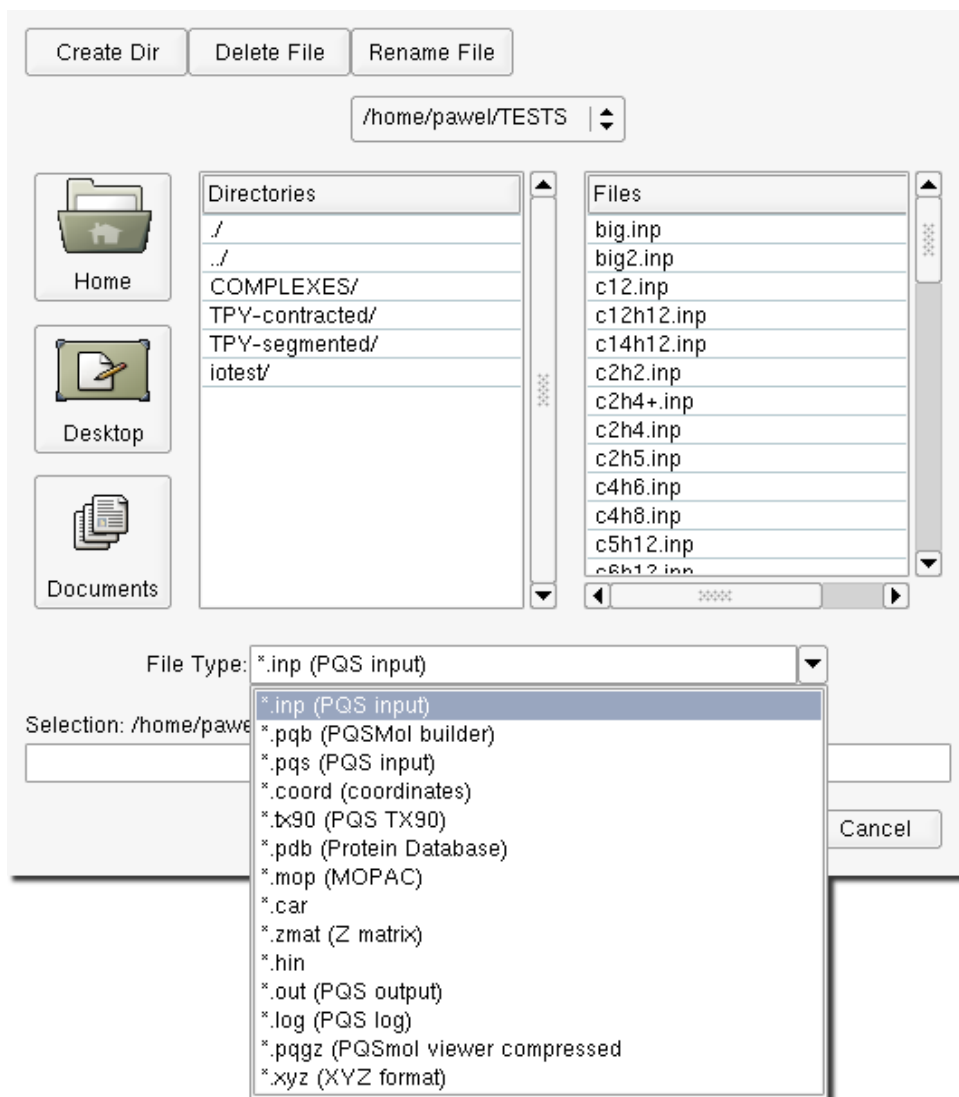

Figure 2.24: Import geometry dialog
- **Import** allows a range of different file types (other than .pqb files) to be imported. The *Import Geometry* dialog is shown in Figure 2.24.